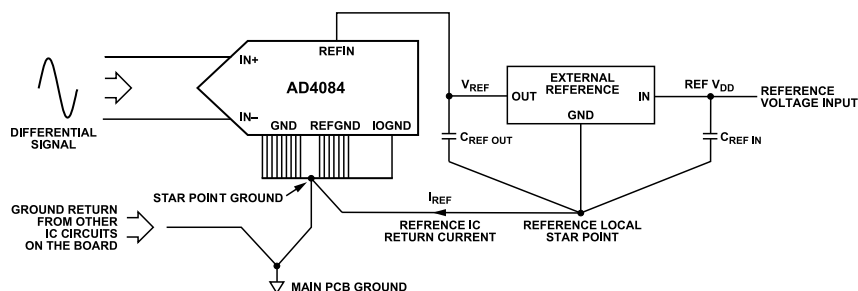

Figure 109. AD4084 External Reference Ground Connections
- ▶ Recommended connections of ground (GND), reference ground (REFGND), and digital ground (IOGND) connections are shown in Figure 109. It is recommended to not keep the current return path of the reference IC in the same current loop as the current return loop from the other circuitry on the PCB. Connect the reference local star point to the ADC star point ground on the top layer of the PCB as shown in Figure 109.